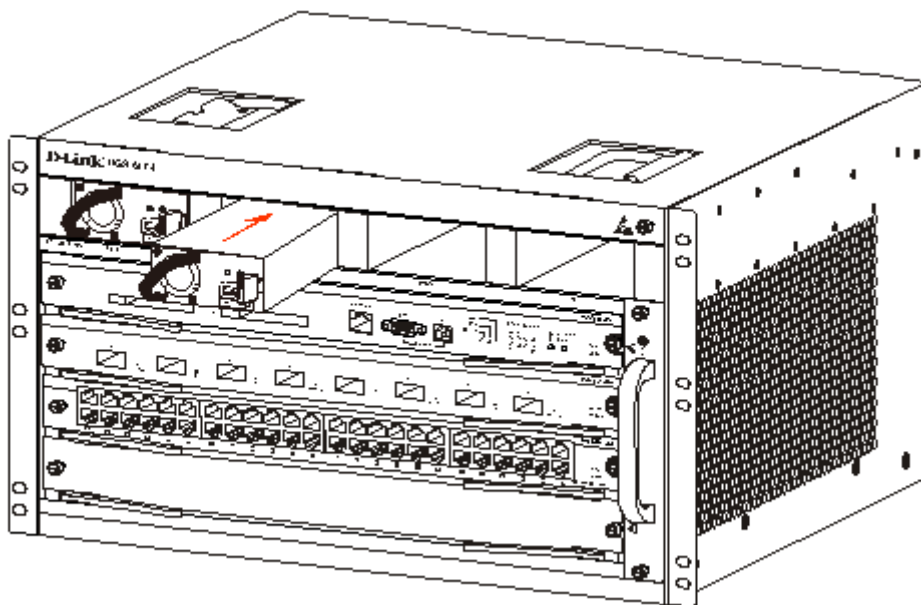

Figure 2-7 Schematic diagram for installing a DC power supply in the DGS-6604
4. Use both hands to pull the levers on the left and right hand side of the board to remove the board from the DGS-6600 Series Switch, as shown in Figure 2-7